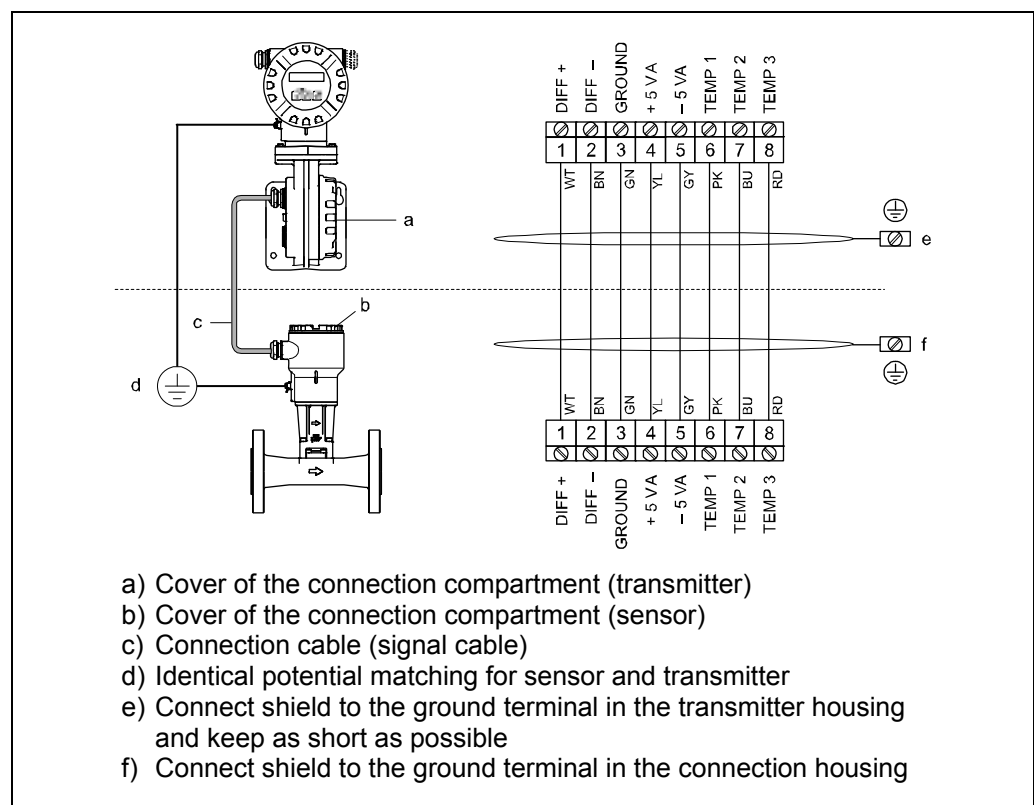

Figure 20
4. Wire the connection cable between the sensor and transmitter in accordance with the electrical connection diagram (see Fig. 20)